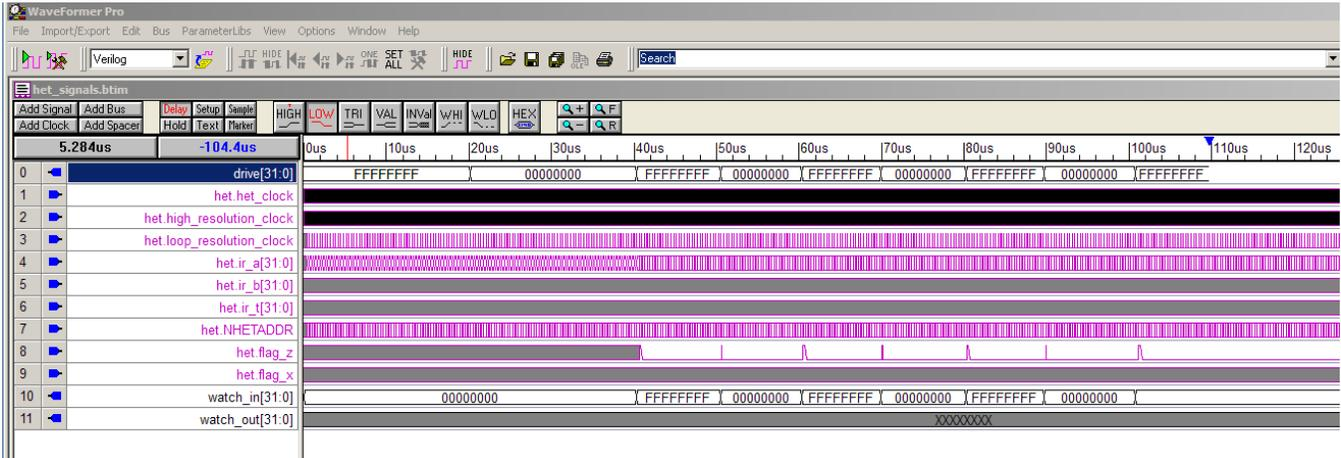
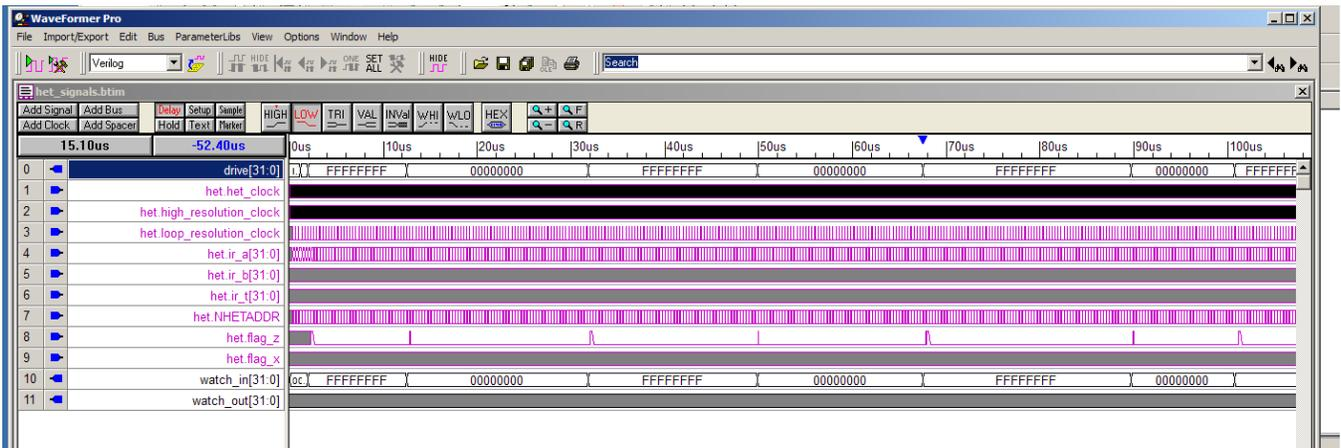
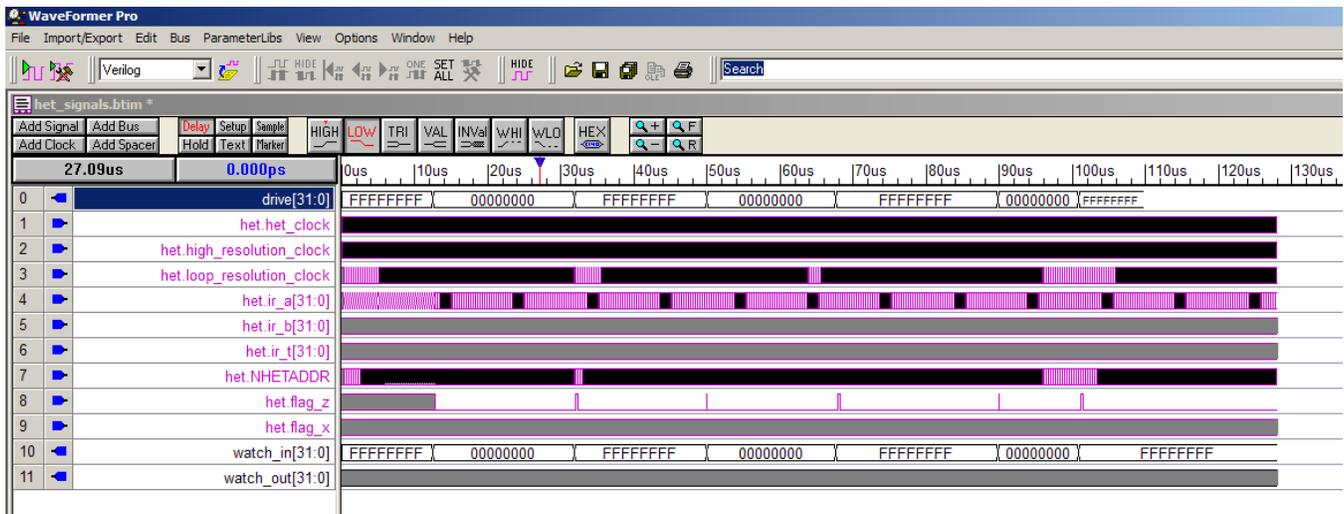

Figure 58. Simulation Waveform From Tutorial 8
Figure 59. Additional Dummy Stimulus Added to Work Round Time Zero Issue
Figure 60. Moving the Dummy Stimulus to the 1 ns Scale Provides Perfect Tracking for Practical Purposes
- The resulting waveform is shown in Figure 58. Note how the stimulus from the drive[31:0] bus appears on the watch_in[31:0] bus during the simulation run. Also note how the initial state of the drive[31:0] bus is dropped from the simulation. To work around this issue, you can create an additional dummy set of transitions in the drive waveform before the HET program begins executing, as shown in Figure 59. The extra transitions are drawn on a scale of 1 μ s so that they are visible in the screen capture; in practice the dummy transitions can be drawn at the 1 ns scale. Figure 60 shows a simulation where the dummy transactions are within 2 ns of time zero so that they do not affect the simulation results because they are complete before the first HET clock.